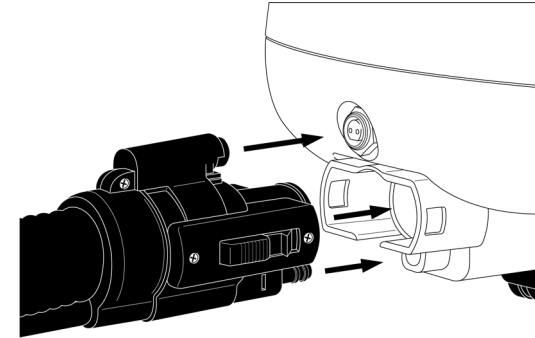

FIGURE 1
1. Align connector end of Hose with Hose Connection Base as shown (FIGURE 1), and insert it. Press in until two locking tabs on Hose snap through two holes on sides of Hose Connection Base.